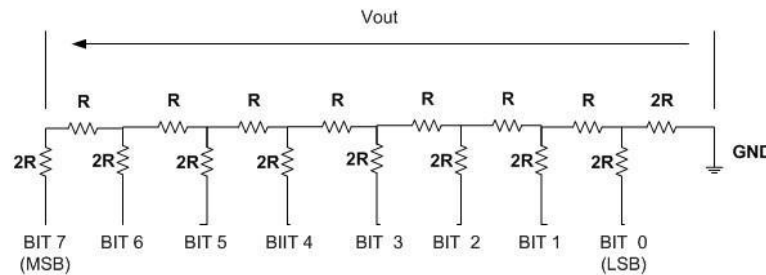
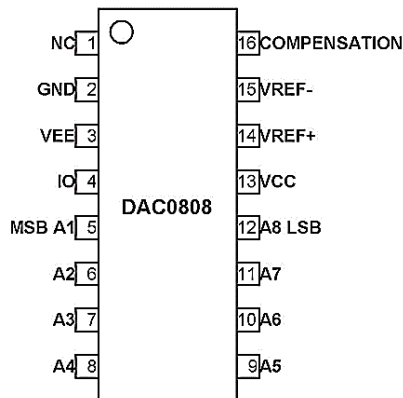

Figure 8: Layout of 8-bit R-2R Ladder Circuit-DAC
Figure 9: DAC0808 (8-bit R-2R based D/A Converter)
2. Now, remove the LEDs and provide the 8-bit digital output to an external DAC circuit i.e., convert the digital output to analog for verification. You can use a simple **R-2R** circuit of Figure 8 or use **DAC0808 IC**. For DAC0808 IC, refer to its datasheet for more information. The pin diagram and DAC circuit using this is shown in Figure 9 and 10.